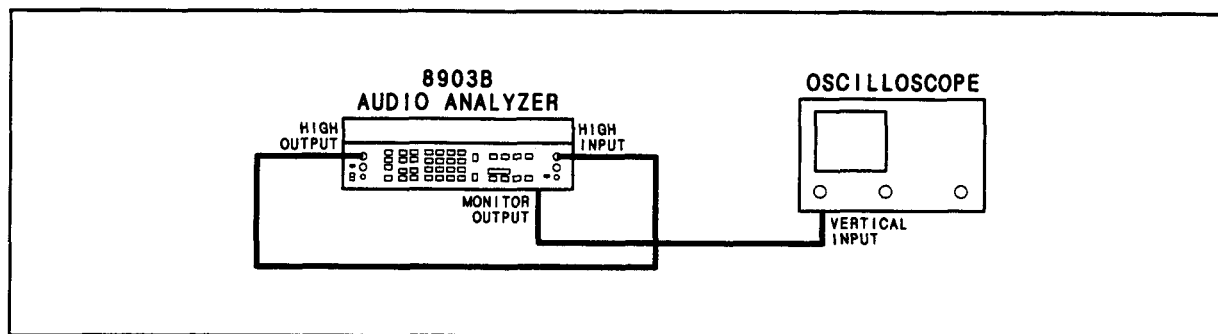

Figure 3-3. Basic Functional Checks Setup
3. Connect a BNC-to-BNC cable between the HIGH OUTPUT and the HIGH INPUT. See Figure 3-3. Set both FLOAT switches to the grounded position. Set impedance to 50 Ω by keying in 47.1 then pressing the SPCL button. The SPCL key light should be lit.
4. Connect the oscilloscope to the MONITOR output on the rear panel. See Figure 3-3.